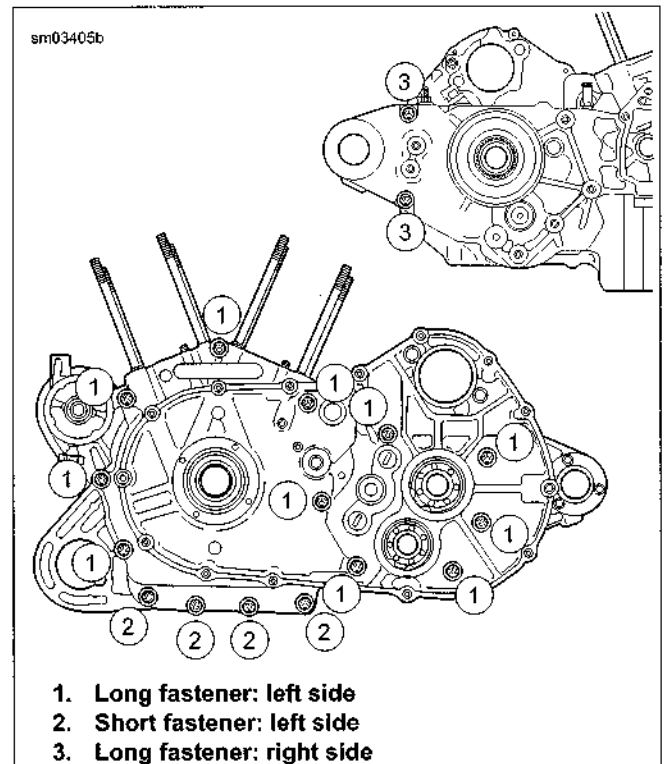

Figure 5-28. Crankcase Fasteners
13. See Figure 5-28. Remove 15 crankcase fasteners (11 long and four short) from left side of crankcase assembly.